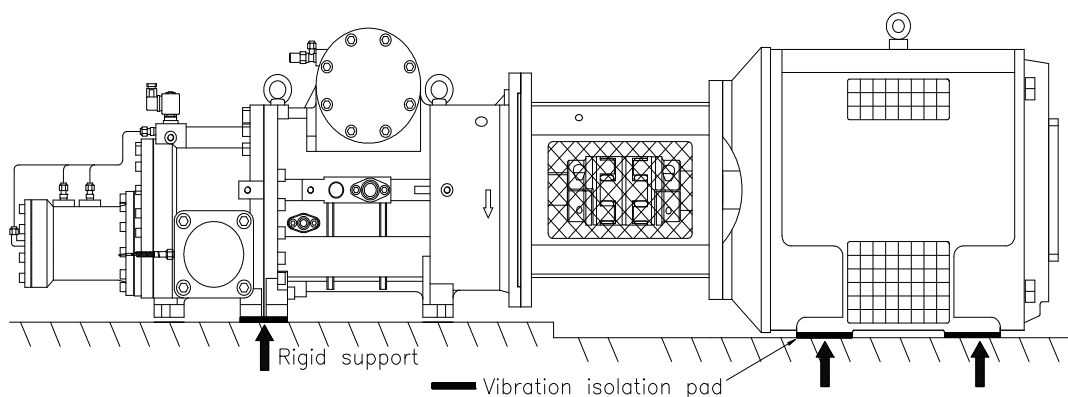

Figure 4.5 Connection with coupling housing
- c. Use vibration isolation pad below compressor and motor. (Refer to Figure 4.5)